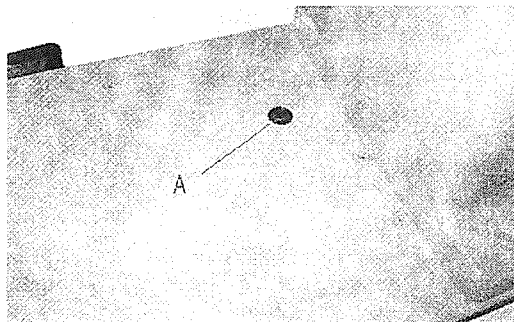

Fig.39
23. TO RE-ENGAGE THE SAFETY CLUTCH (Figs. 39 & 40)